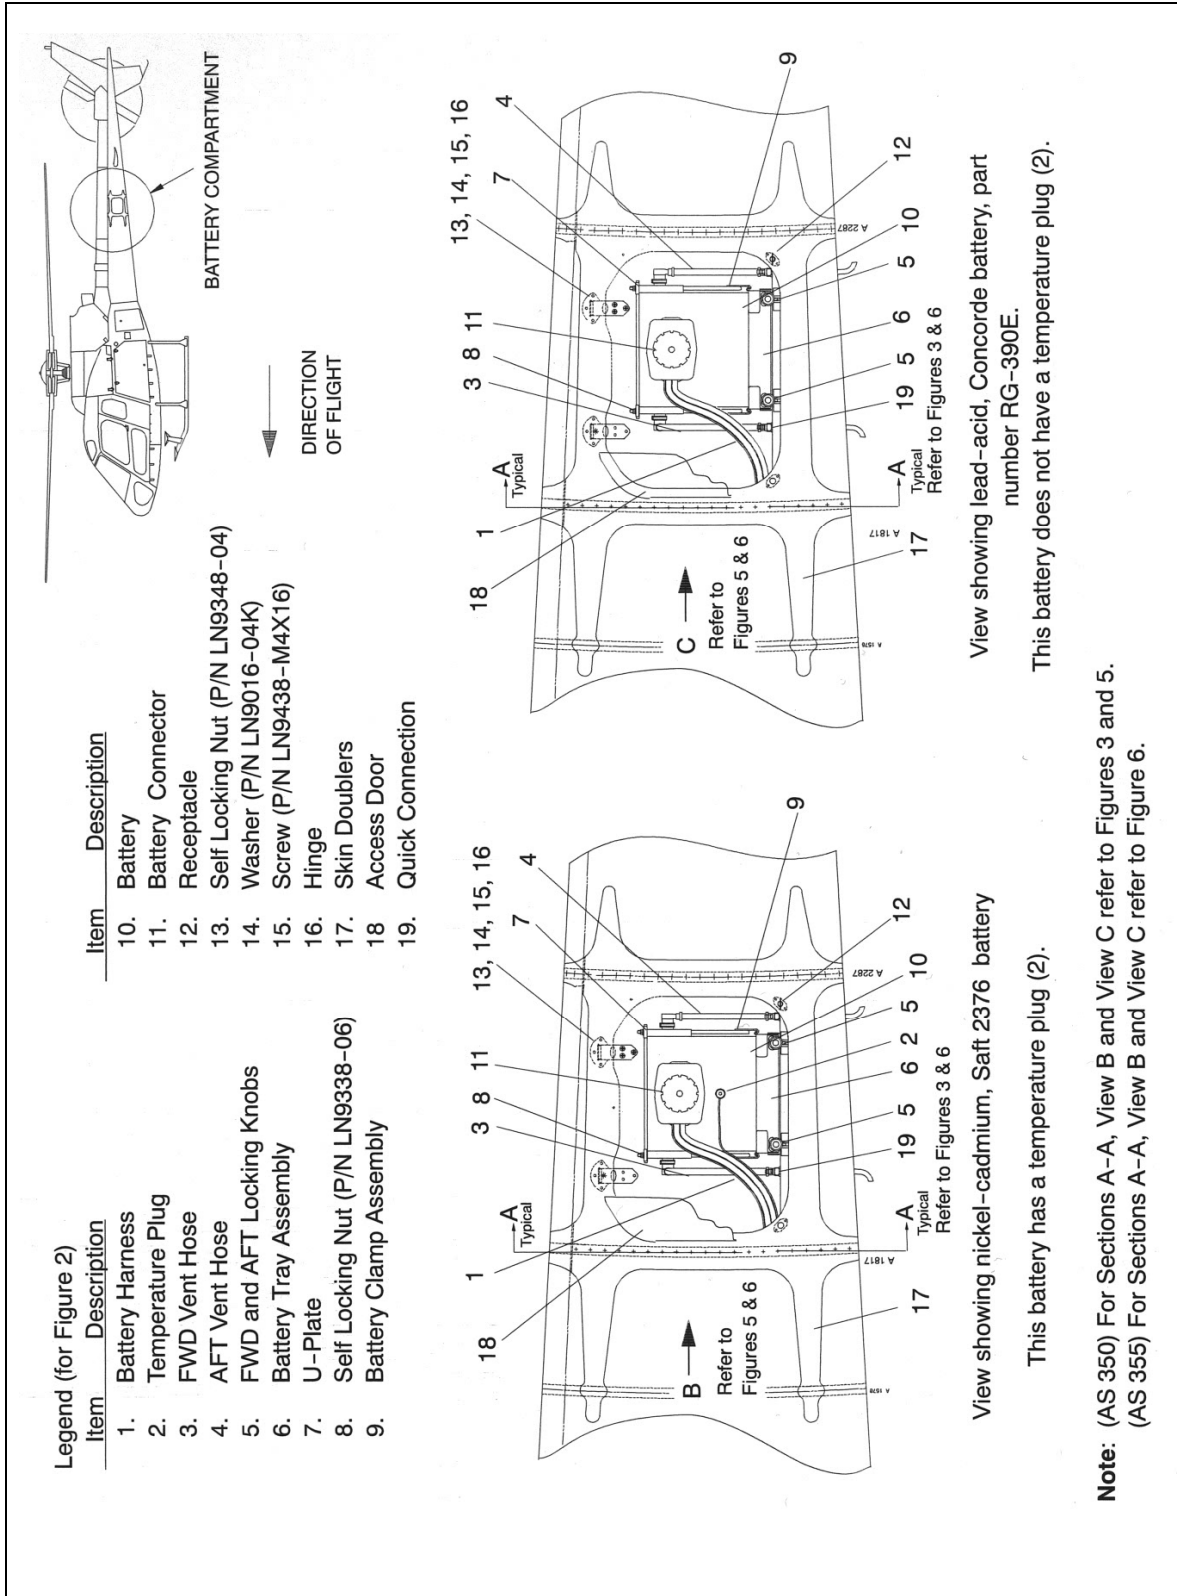

Figure 2 AS 350 and AS 355 Battery Compartment (main views)
- Battery Tray Assembly (Refer to Figure 2)
- Battery Harness (Refer to Figure 2)
- Skin Doublers (Refer to Figure 2)